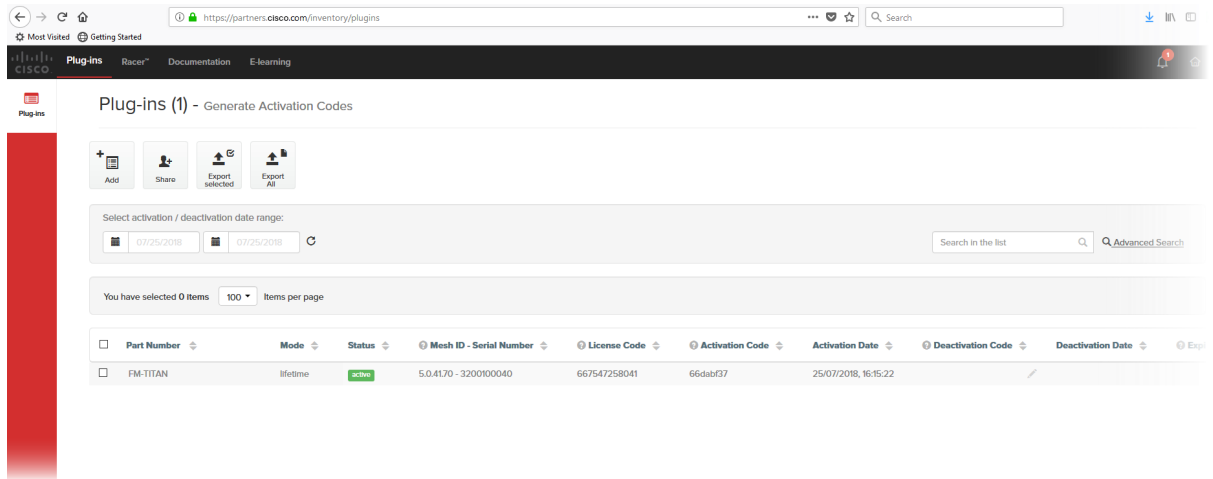

Figure 59. Partner Portal Plug-ins page (License code deactivation)
- The Plug-ins web page will be shown (Figure 59 (page 114)).